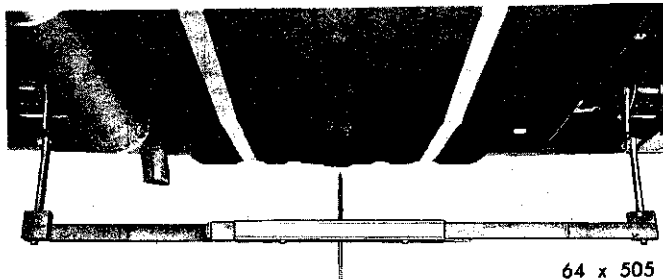

Fig. 14—Rear Alignment Gauge Installed
(2) Using the 45 inch gauge (middle gauge) position the gauge adapter in the frame gauge holes, as shown in Figure 14.